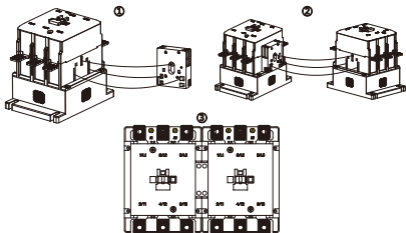

Figure 10 Installation method of mechanical interlocking MI
(4)The installation method of MI mechanical interlocking is shown in Figure 10:
- ① Installing MI
- ② Install another contactor as shown in the figure
- ③ Install the fixed module as shown in the figure
- ④ Fix the two contactors with fastening screws, nuts, and connecting plates as shown in the figure